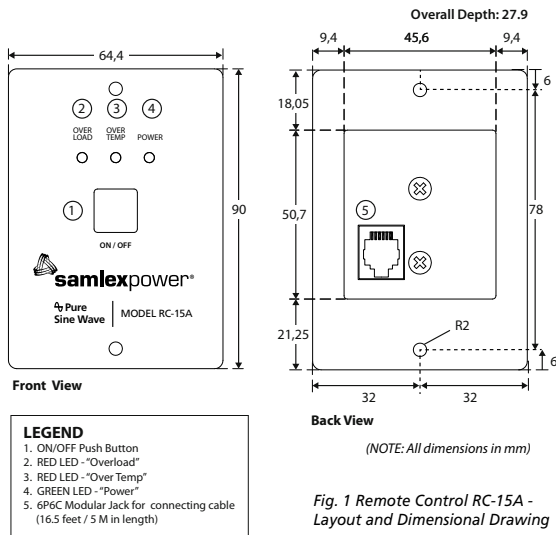

Fig. 1 Remote Control RC-15A - Layout and Dimensional Drawing
Fig. 1 shows the layout of controls and indications and dimensional drawing.
Please refer to Fig. 1. The Remote Control can be flush mounted on a wall or a panel by making a suitable cut out to accommodate the projection in the back. Connect one end of the cable set to the RJ-12 / RJ-25 Modular Jack (5) at the back of the Remote and the other end to the RJ-12 / RJ-25 Jack on the inverter. Ensure that the connection is firm and the tab on the plug securely locks in the jack.
Please refer to Fig 1. Please also refer to the Owner's Manual of the inverter for associated details.